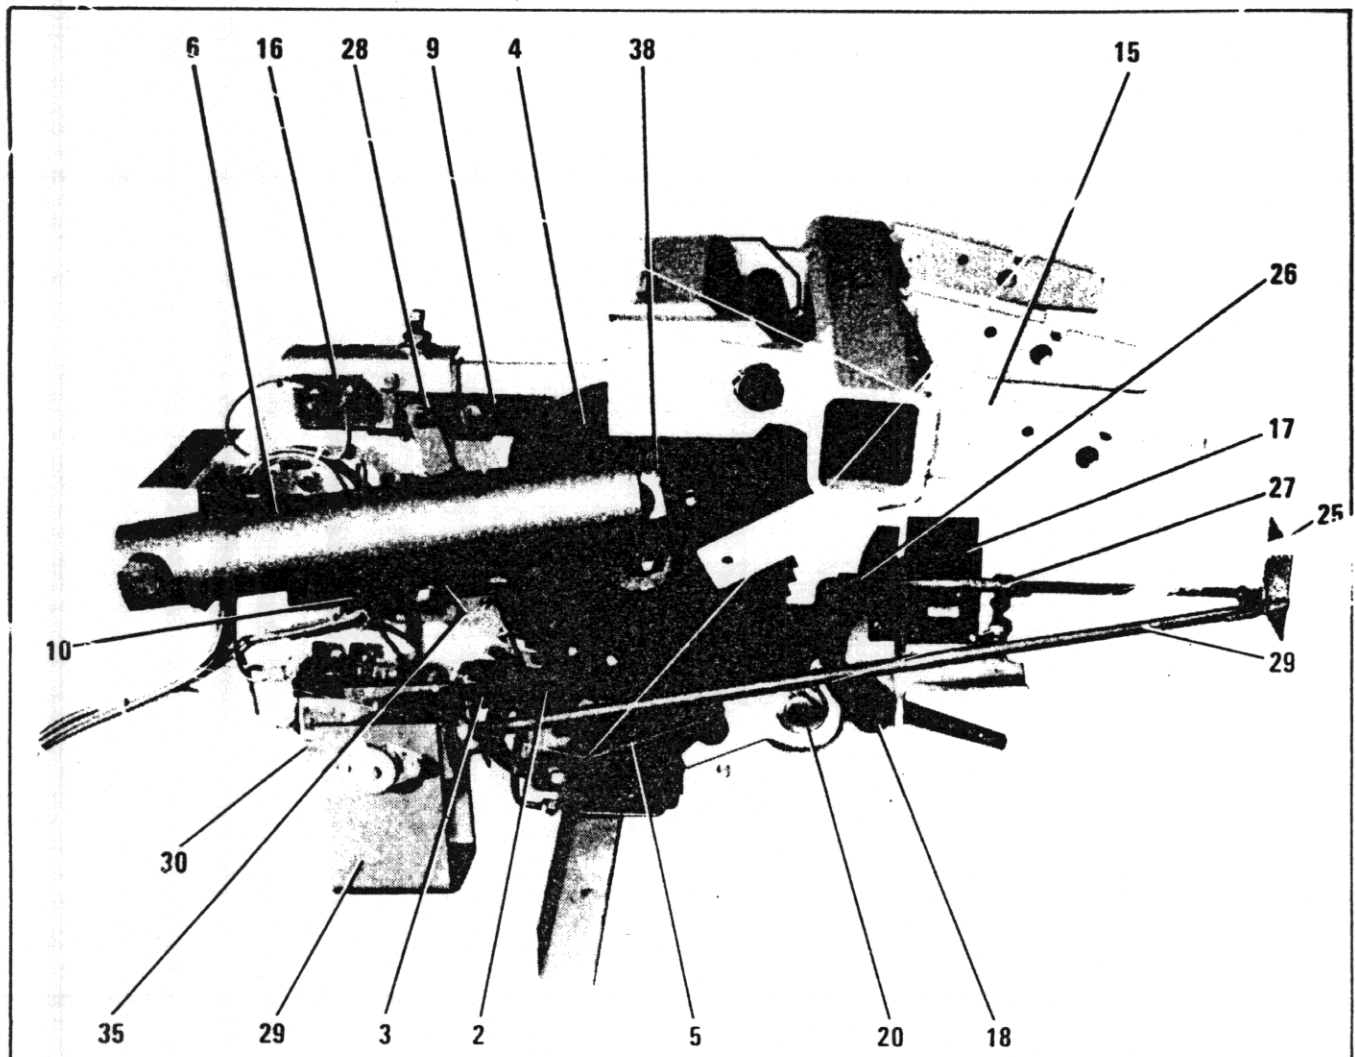
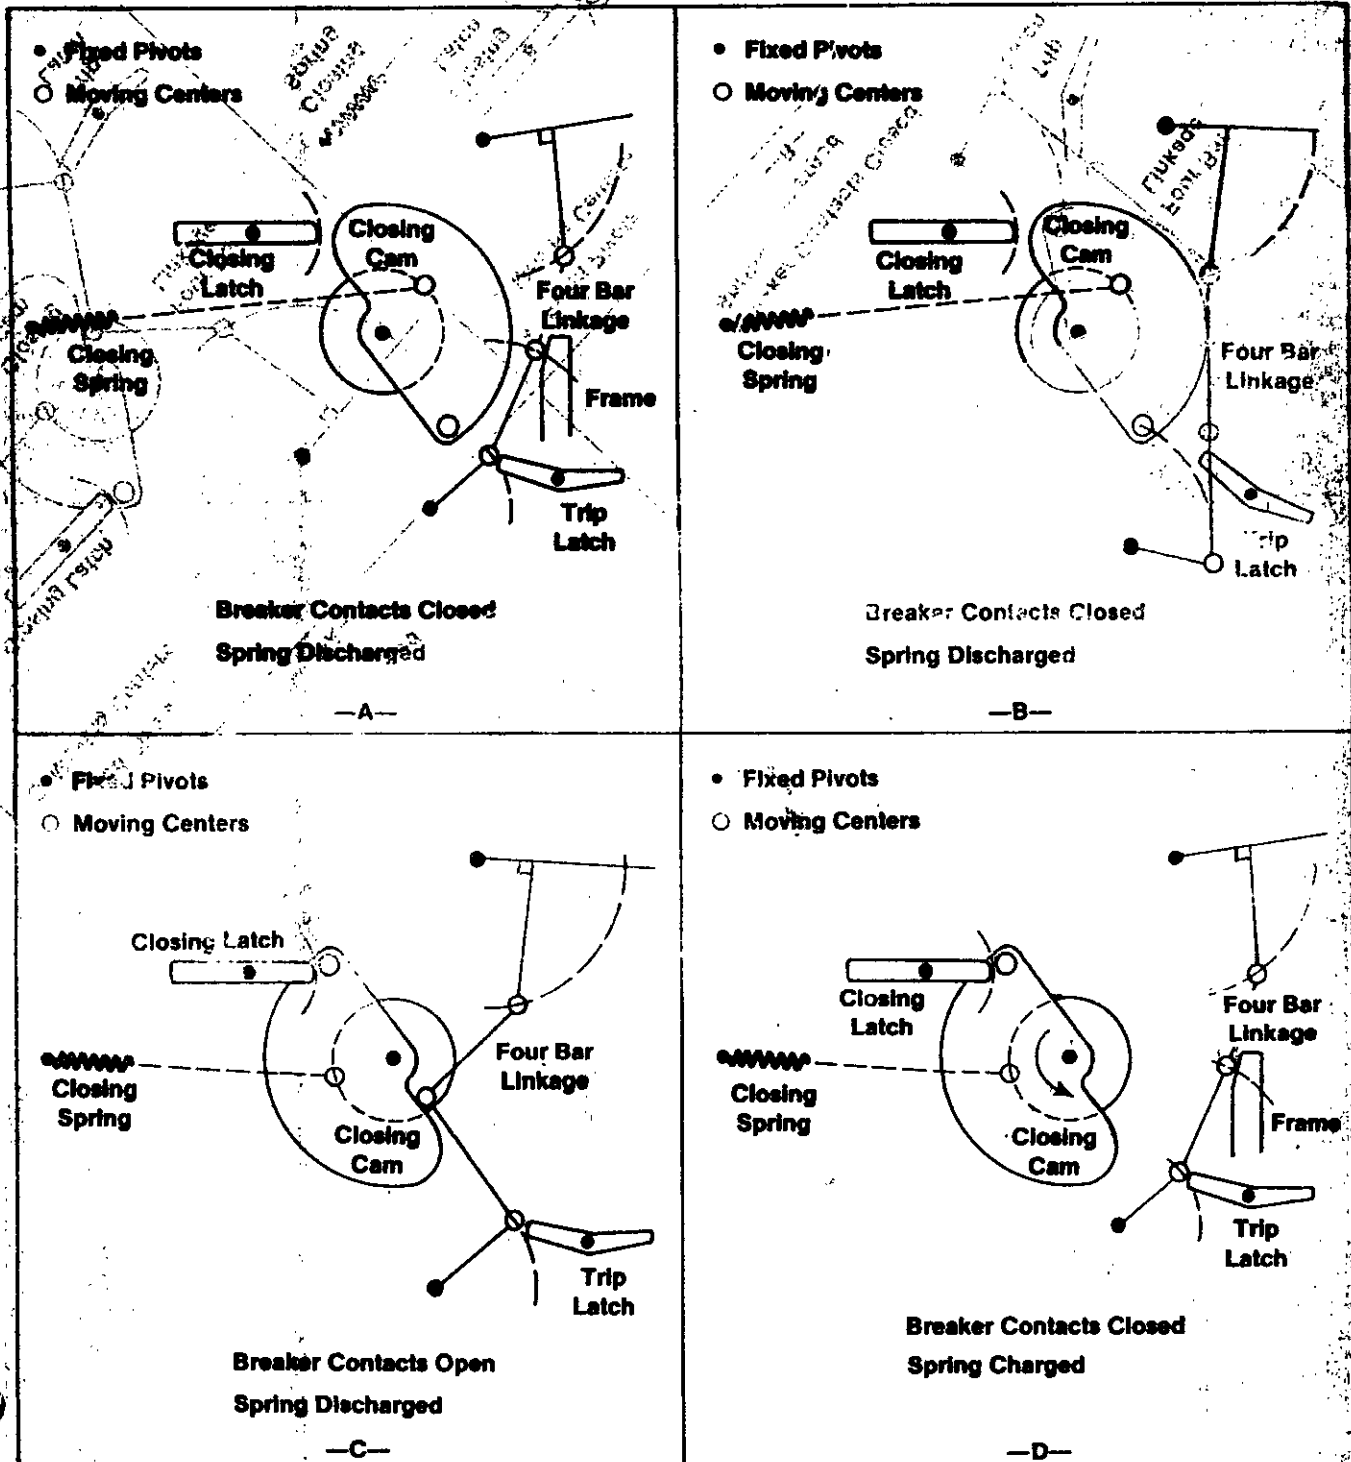
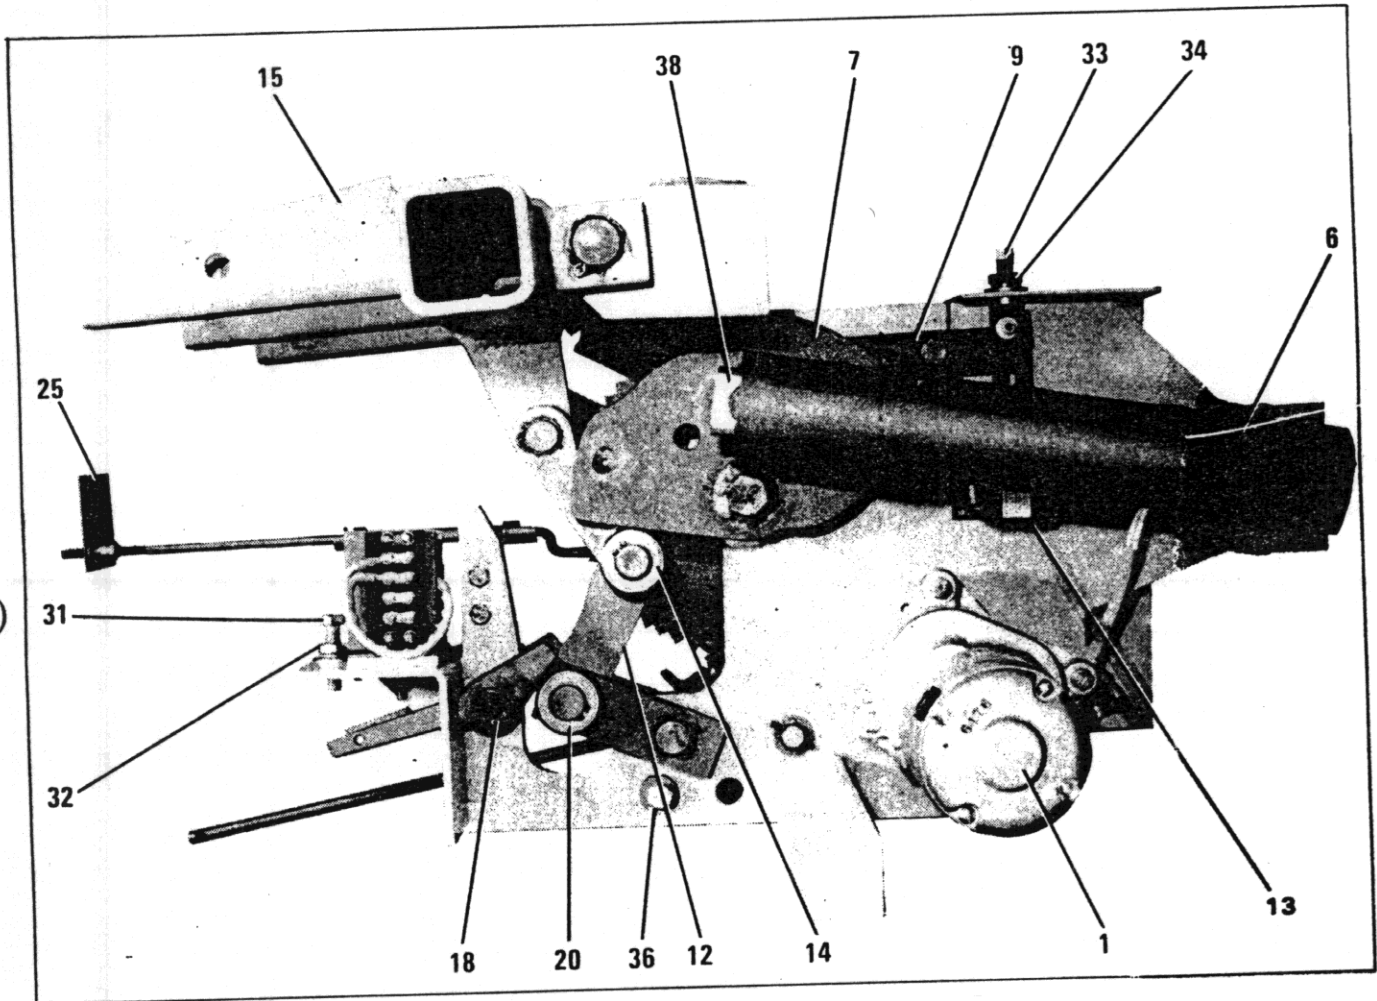
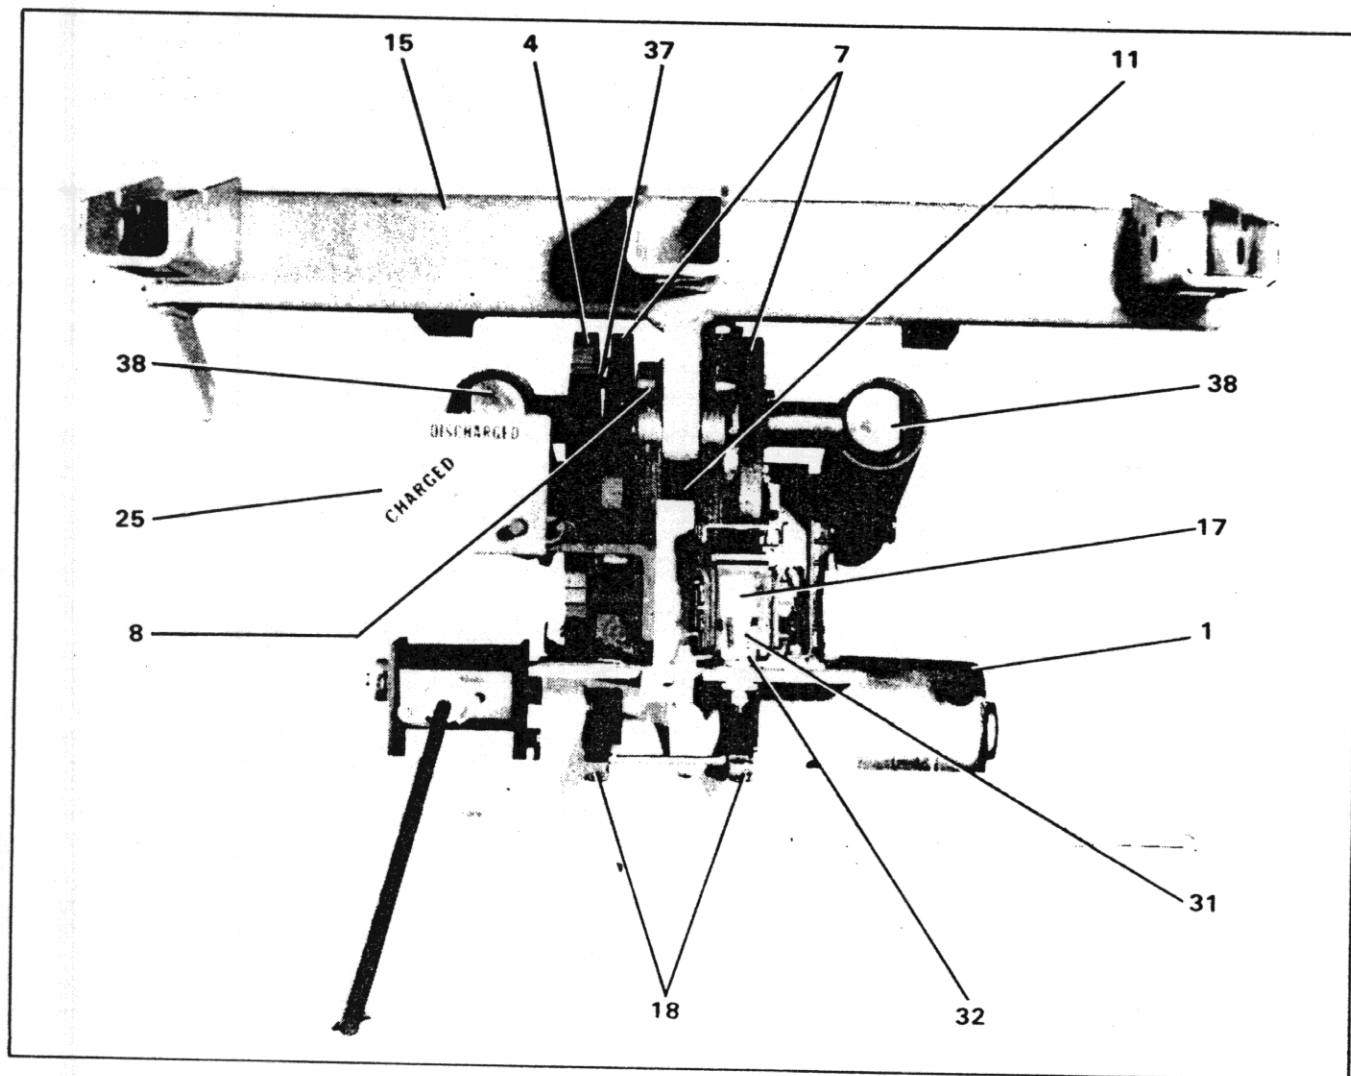

Figure 3. 515-2 Operator Left Hand View
Figure 4. Sequence of Operation
Figure 7. 515-2 Operator Right Hand View
Figure 8. 515-2 Operator Front View
The breaker is closed by the stored energy operator straightening a toggle in the four-bar linkage (12, Fig. 7). The operator is powered by precharged springs (stored energy).
To be used with "Description of Operation" Figures 3, 7 and 8.
The stored energy operator (Fig. 3) uses charged springs to power the closing operation. Opening is spring-powered also, but not with the same springs used for closing. A stored energy operator consists of three systems: spring charging drive, cam and ratchet assembly, and the four bar toggle linkage (A-D, Fig. 4). These systems are disengaged from each other except while performing their specific functions. For example — the spring charging drive and cam-ratchet assembly are disengaged except when the cam-ratchet arrangement is being charged. Similarly, the cam-ratchet and four bar linkage are free of each other except during closing.
Normal electrical tripping (opening) is caused by the trip solenoid (17, Fig. 8) which is designated 52TC on the schematic of Figure 9. The trip solenoid is energized by operation of the circuit breaker control switch and the protective relays which are mounted on the switchgear.
When the springs of a stored energy operated breaker are fully charged, it can be closed by pulling the manual close pull rod (21, Fig. 7) or electrically by energizing the closing circuit. This rotates the latch that allows the springs to close the breaker.
Energization of the Breaker Control Circuit will cause the spring charging motor (1, Fig. 7) to start charging the closing springs (6, Fig. 3). The spring charging motor (1) will drive the driving pawl (2, Fig. 3) through an eccentric drive shaft (3, Fig. 3). The driving pawl (2) will turn the ratchet wheel (4, Fig. 3) counterclockwise one tooth at a time. The holding pawl (5, Fig. 3) will hold the ratchet in position between driving strokes of driving pawl (2). This charging operation will continue turning the ratchet wheel (4) counterclockwise a tooth at a time until the closing springs (6) are fully charged (dead center). The motor will drive the ratchet wheel past this dead center position and the closing springs (6) will aid rotation driving the ratchet wheel and cams counterclockwise until spring release rollers (8, Fig. 8) on the inside surfaces of cams (7, Fig. 7) engage the spring release latch (9, Fig. 7). This arrests the motion of the ratchet wheel (4) and the cams (7) and holds the operator in the fully charged position. As the cams and ratchet wheel go over center, the motor cutoff switch (10, Fig. 3) is actuated to de-energize the spring charging motor (1). The spring charging motor then coasts to a stop, driving pawl (2) oscillating freely in the smooth toothless section of the ratchet wheel.
The close latch check switch (16, Fig. 3) is in the motor circuit. The close latch check switch monitors the position of the close latch (9) and will prevent charging of the closing springs (6) electrically unless the close latch (9) is in the correct position.
As energy is stored in the closing springs, the four bar linkage (12, Fig. 7) will be positioned by the linkage reset spring (11, Fig. 8) which acts to cause cam follower rollers (14, Fig. 7) to follow the surface of cam (7, Fig. 7) until the links are in a reset position, and allowing latch rollers (20, Fig. 7) to be positioned in front of trip latch (18, Fig. 7).
See Figure 4 for sequence of operation.
Energizing the spring release solenoid (13, Fig. 7) will drive the close latch (9, Fig. 7) away from the spring release rollers (8, Fig. 8) on the cams (7, Fig. 7) releasing the stored energy in the closing springs (6, Fig. 7). The closing springs (6) will drive the ratchet wheel (4, Fig. 3) and the cams (7, Fig. 7) counterclockwise at a high rate of speed. The cams (7) will engage the cam follower rollers (14, Fig. 7) of the four bar linkage (12, Fig. 7) and drive them forward causing the four bar linkage to become straight. As the four bar linkage (12) becomes straight, it drives the radius arm (15, Fig. 7) upward causing the breaker contacts to close and the opening springs to be charged. The cams (7) drive the four bar linkage (12) over toggle and against the frame thereby latching the breaker contacts in the closed position.
When the closing cycle has been initiated and the cams (7, Fig. 7) begin to turn, the motor cutoff switch (10, Fig. 3) resets itself. A "b" aux. switch of the breaker opens de-energizing the closing solenoid (13, Fig. 7). The close latch (9, Fig. 7) returns to its reset position and the close latch check switch (16, Fig. 3) closes and energizes the spring charging motor (1). The closing springs (6) are then recharged as described earlier.
Energizing the trip solenoid (17, Fig. 3) will drive the trip latch (18, Fig. 3) away from latch roller (20, Fig. 3) on the four bar linkage (12, Fig. 3). This allows the four bar linkage to collapse and the breaker contacts will open. If the closing springs (6) are in the charged position, the linkage reset spring (11, Fig. 8) will immediately reset the four bar
The normal control for this operator is contained in a control panel mounted at the rear of the unit. It consists of motor cutoff switch (10, Fig. 3), anti-pumping relay (30, Fig. 3), and the close latch check (16). The typical control arrangement's elementary diagram is shown in Figure 9. (Check schematic furnished with switchgear as wiring arrangements may vary.)
The spring charging motor power is supplied through terminals 3 and 4, Figure 9. The mechanical interlock is a switch operated by the breaker release lever (foot lever) which opens the motor circuit when the lever is depressed. The close latch check switch is closed when the close latch (9, Fig. 3) is in the reset position. The 88 switches are shown with the closing springs discharged. When the control is energized, the motor starts to charge the springs. The 88 switch is operated by a roll pin striker (37, Fig. 3) mounted in the ratchet wheel (4, Figs. 3 and 14). As the ratchet wheel and drive blocks charge the springs, the ratchet wheel revolves to the position of full compression, dead center. Beyond dead center position, the springs aid rotation and cause the motor cutoff switch striker to depress the actuator (35, Fig. 3) of the 88-1 switch, opening the motor circuit and the 88-3 contact in the anti-pumping relay circuit. The spring charging motor coasts to a stop with the driving pawl (2, Fig. 3) oscillating freely on the smooth portion of the ratchet wheel.